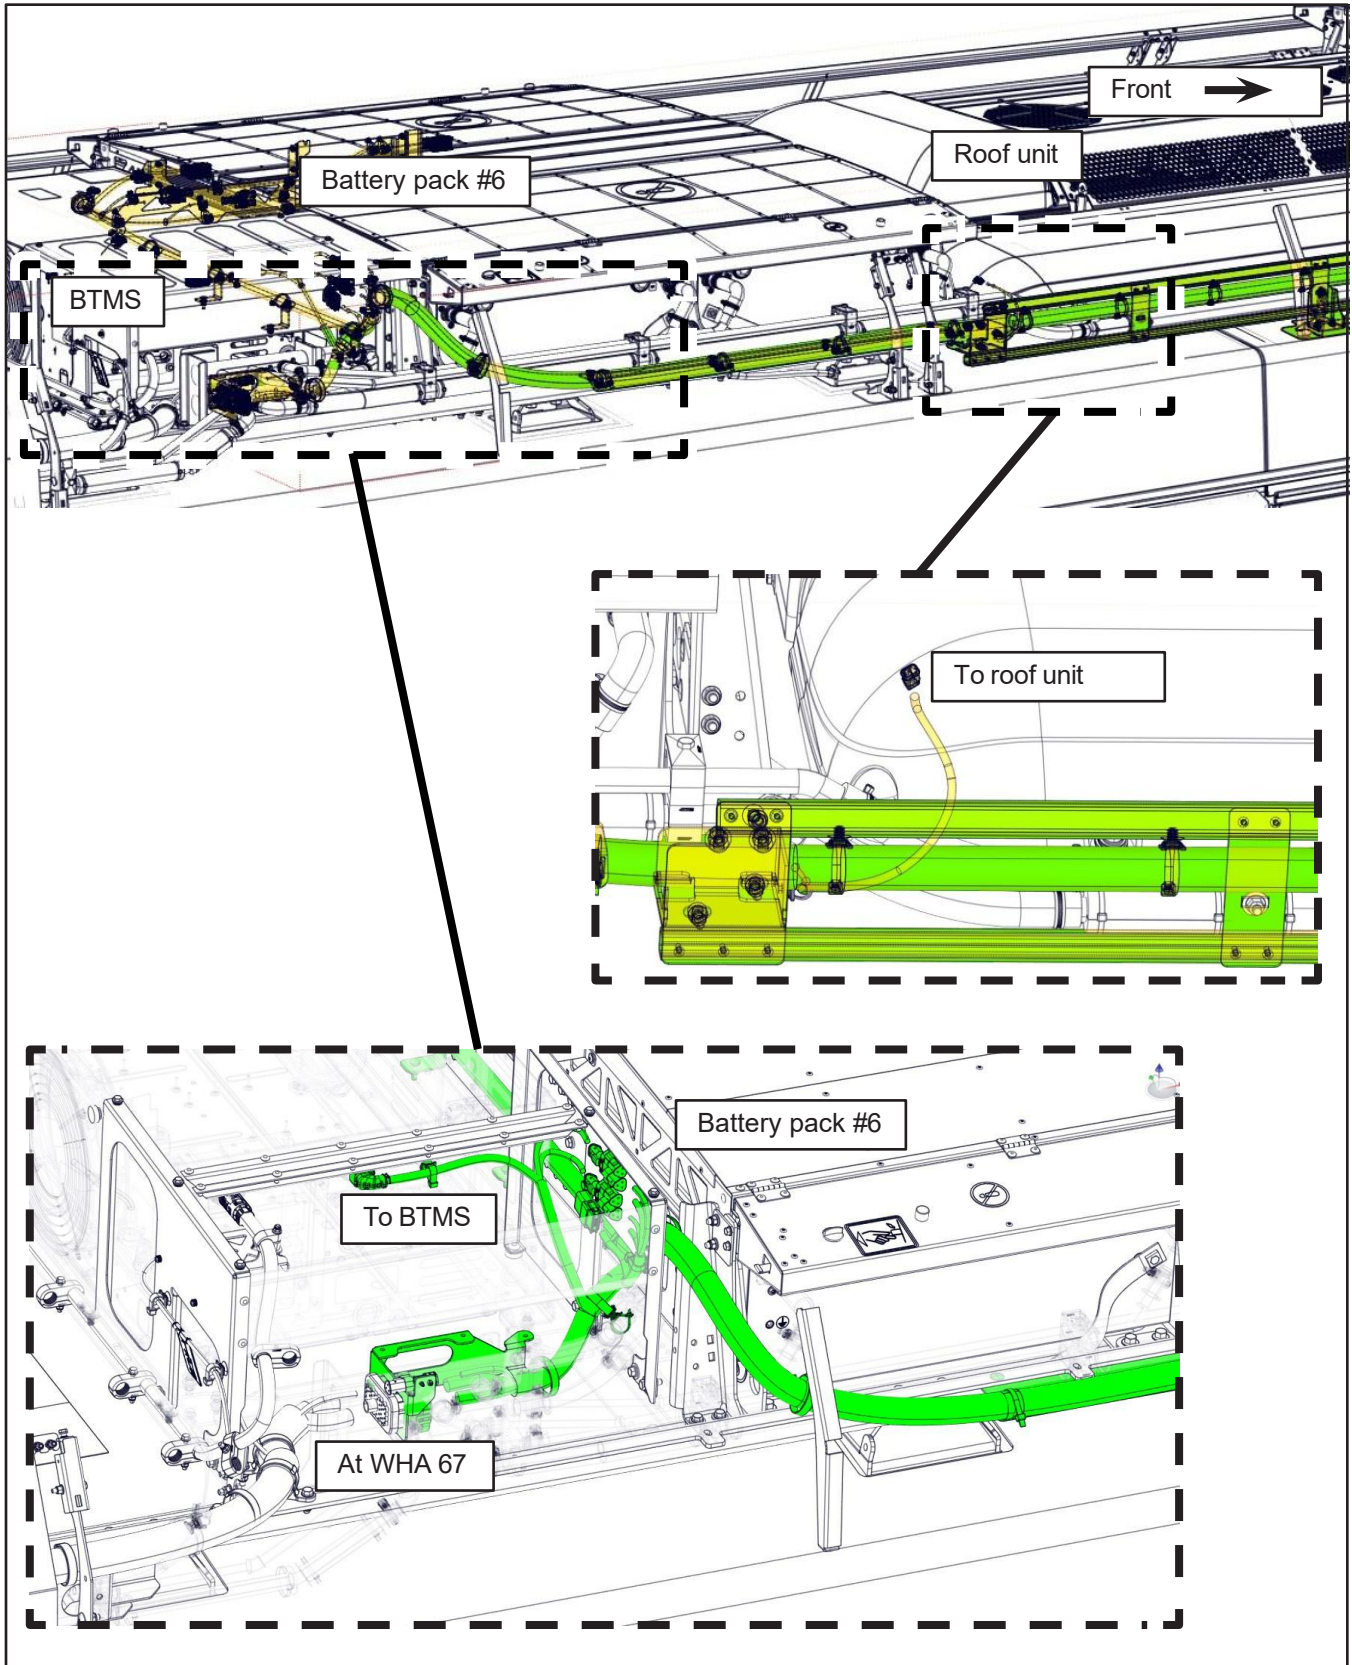

Figure 5 - WHA 47 Routing (Rear Right Side)
- 1.10. At the BTMS, inspect connectors XT5-X6747A and XT5-X6747E going at the WHA67, see the next figure and the Figure 5 "At WHA 67". Remove the back shell, if seals or damage are found or if signs of water ingress, see level 2.